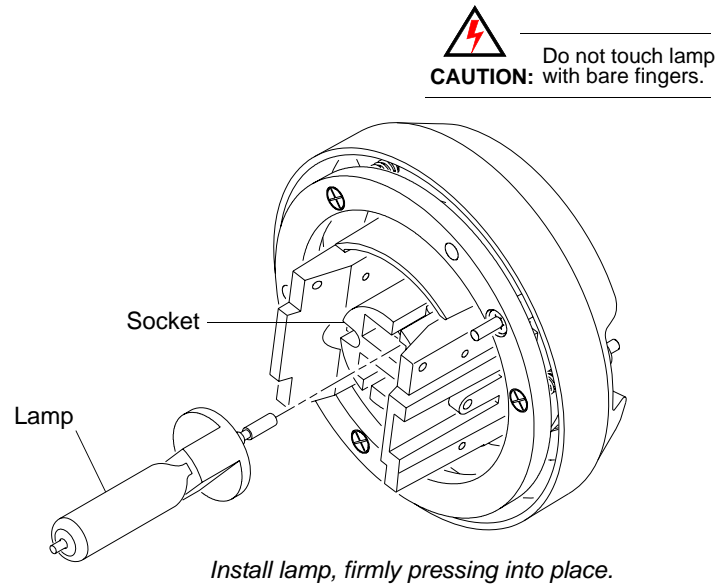

Figure 2-4: Installing Arc Lamp in Socket
Step 3. Grip lamp by base and firmly install in socket (**Figure 2-4**).